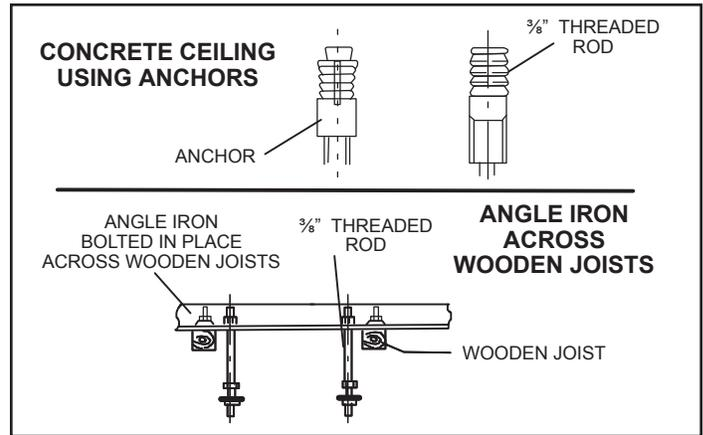

Figure 1. Suspending Methods
1. Make sure that the structural ceiling is able to support the weight of the mode selection box(es). It may be necessary to add extra support. If the structural ceiling is constructed of concrete, install anchors to accept four $\frac{3}{8}$ inch threaded rods to suspend the mode selection box. If the structural ceiling includes wooden joists, use angle iron or a Unistrut channel fixed securely in place to accept the $\frac{3}{8}$ inch threaded rods. See Figure 1.